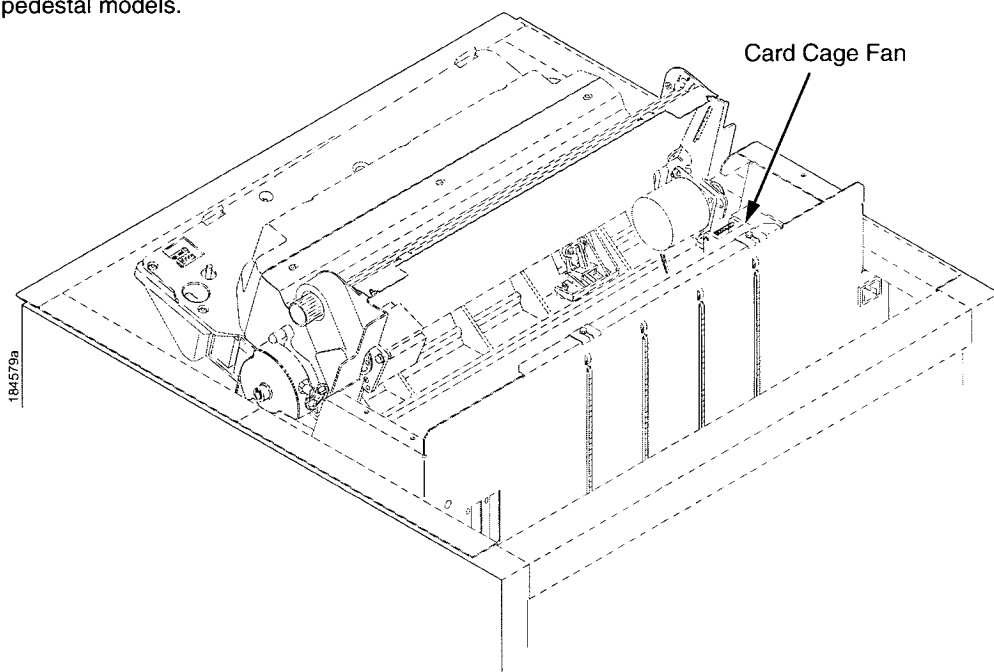

Figure 10. Cleaning the Card Cage Fan Assembly
2. Vacuum the card cage fan assembly and surrounding areas to remove paper particles, dust, and lint. (Figure 10.)